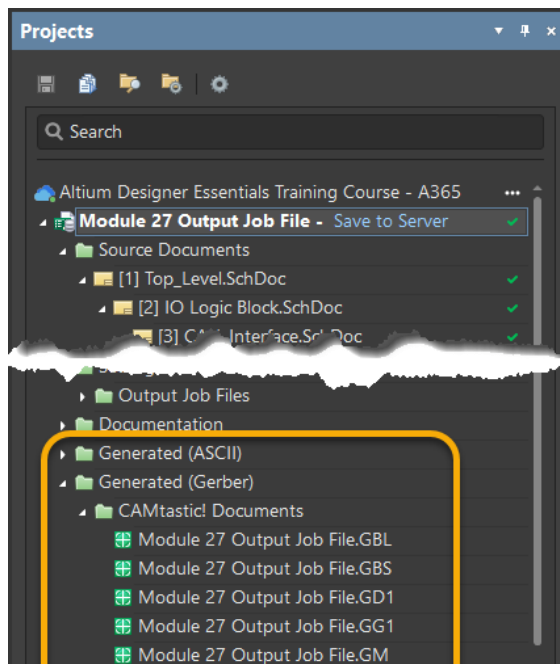

Figure 11. Folder Structure outputs generated from the Output Job
32. After the different Outputs are generated (this may take up to several minutes, depending on the Design size and PC performance) the individual outputs will appear at the *Projects* panel as shown in Figure 11.